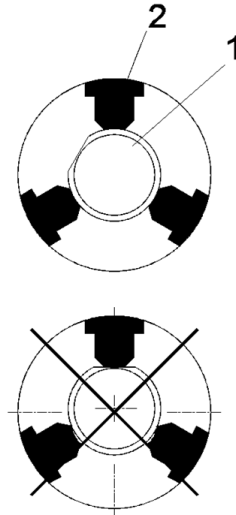

Fig. 1
(see Fig. 1 and 2)
Clamp tool shanks with grooves, notches or clamping flat (1) according Fig. 1 in such a way, that these interruptions of the cylindrical cross-section do not lean against one of the clamping plates (2).